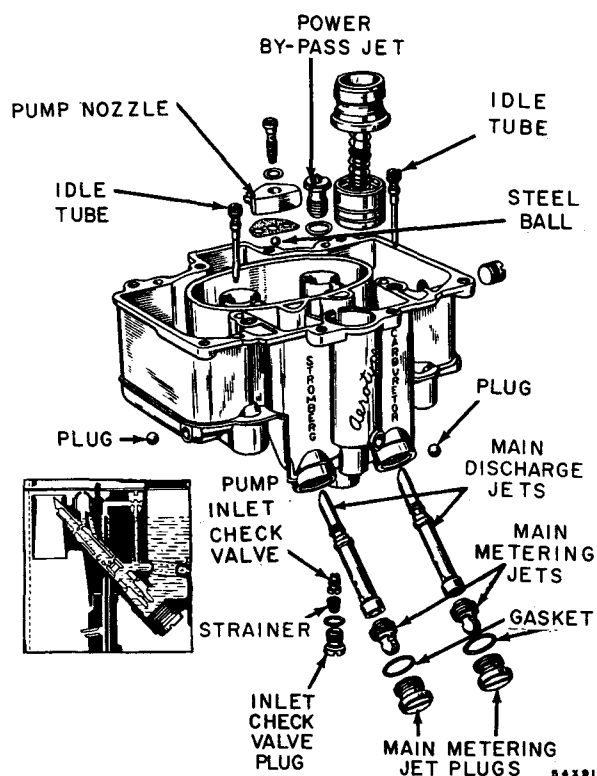

Fig. 11 — Main Body Assembly (Disassembled View)
14. MAIN BODY (Refer to Fig. 11)
b. Main Body (Refer to Fig. 11)
Align jets, as shown in insert of Figure 11.